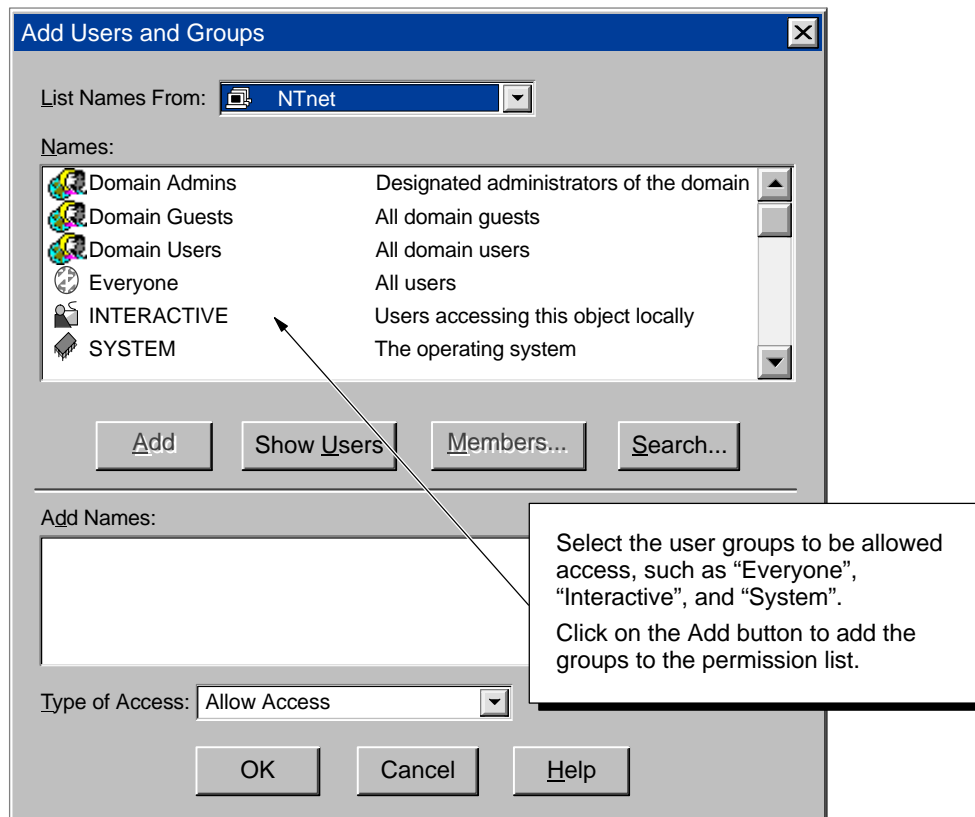

Figure D-15 Changing the Access Permissions for Users or Groups
3. Click on the Add button to display the Add Users and Groups dialog box and change the security settings for access to the server. See Figure D-15.